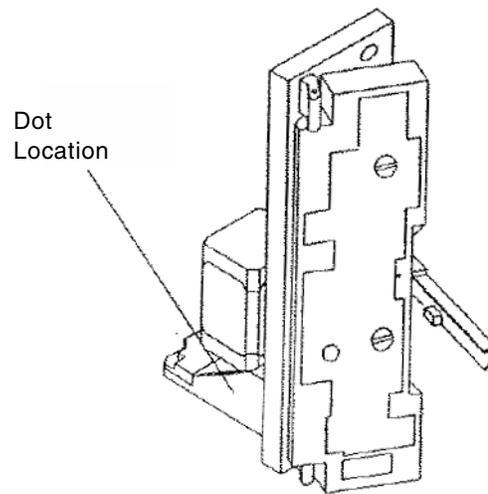

Figure 8-3 Location of Yellow or White Dot
13. Inspect for a white or yellow dot on the side of the slide clamp assembly (nearest the middle of the device) and on the FPC terminal PCB (see Figure 8-3 for location). If a dot is present, proceed to step 14.
- 13.3** Using a yellow paint pen, mark a yellow dot on the side (nearest the middle of the device, see Figure 8-3) of the slide clamp assembly. Proceed to step 14.